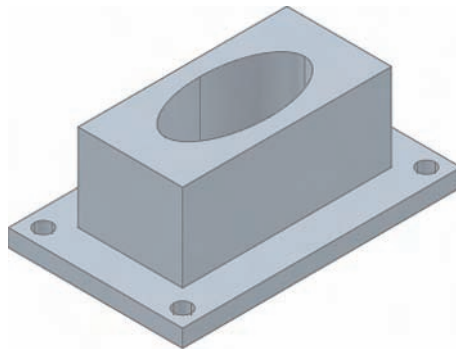

Fig. 13.31 Example – isometric view – **Chamfer and Fillet** – the model before using the tools
- Place in the **3D Views/SW Isometric** view (Fig. 13.31). **Union** the two boxes and with the **Subtract** tool, subtract the cylinders from the union.